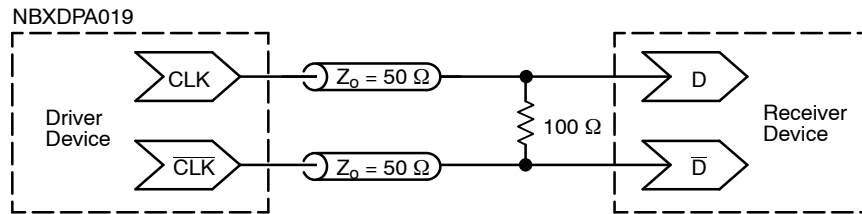

Figure 5. Typical Termination for Output Driver and Device Evaluation
2. Measurement taken with outputs terminated with 100 ohm across differential pair. See Figure 5.
4. Measurement taken with outputs terminated with 100 ohm across differential pair. See Figure 5.